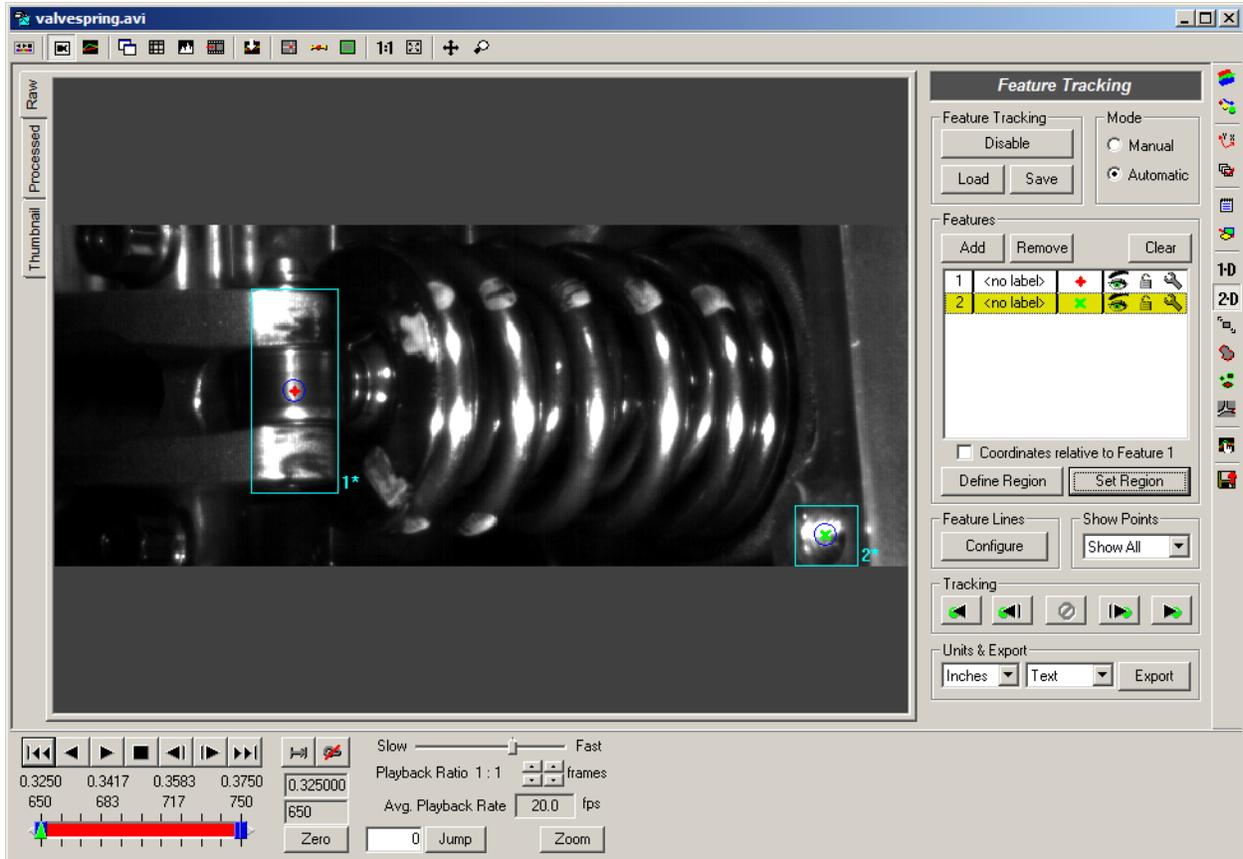

Figure 5. Features defined on valve spring video image
7. Click **Add**, then define and set another region around the threaded hole at the lower right of the image. This is Feature 2. Figure 5 shows the two features.